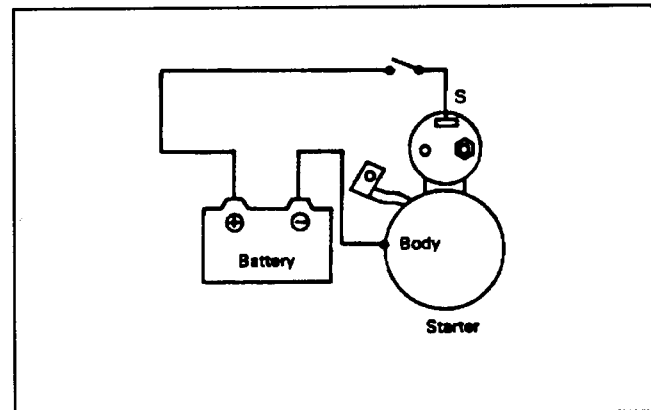

Figure 32
1. Disconnect the wire from terminal "M" (Fig. 32).